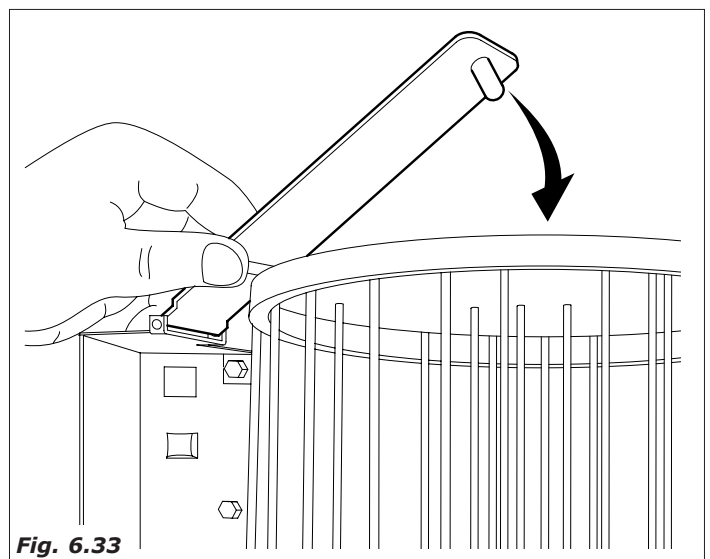

Fig. 6.33
- Put the cup turret's lid back on and snap in the spring band (Fig. 6.33).